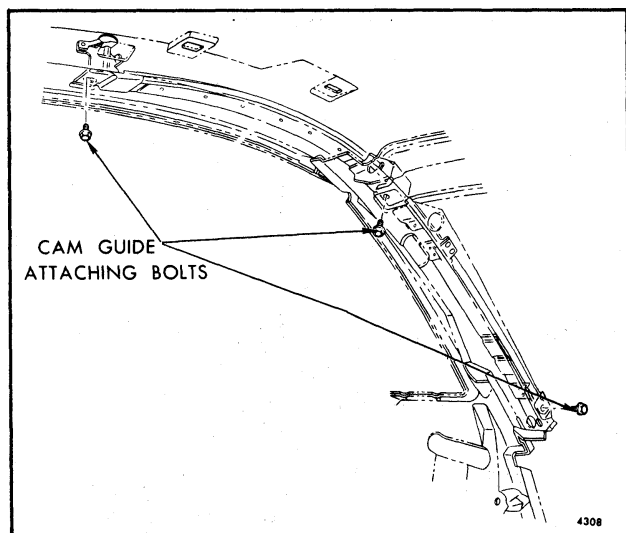

Fig. 7-127-Tailgate Window Right Guide Cam Attachment
4. Detach headlining over quarter glass on right side (left side also if left guide cam is to be removed) sufficiently to reveal access hole at forward attaching location of window guide cam (Fig. 7-127).
10. For removal of right guide cam, detach and remove window regulator as previously described. Remove guide cam attaching bolts, move guide assembly forward to clear pillar access hole with drive cable and withdraw guide from body (Fig. 7-127).